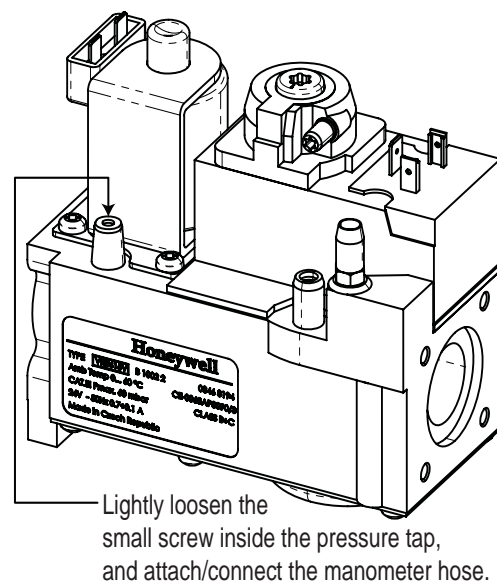

Figure 14.
Install a sediment trap/drip leg and union located outside the heater panels in accordance with *European Standard Codes of Practice* requirements. Do not use a restrictive gas cock. The sediment trap/drip leg shall be either a tee fitting with a capped nipple in the bottom outlet which can be removed for cleaning, as illustrated in Figure 14, or an other device recognized as an effective sediment trap/drip leg. All gas piping should be tested after installation in accordance with local codes.
2. Loosen the small screw inside the pressure tap as shown in Figure 14.
This appliance is equipped with an unconventional gas control valve that is factory set with a manifold pressure of 1.1 ± 0.5 mbar. Installation or service must be performed by a qualified installer, service agency, or the gas supplier. If this control valve is replaced, it must be replaced with an identical control. The combination gas valve incorporates dual shut-off valves and a negative-pressure regulator. For proper operation, the regulated pressure at the outlet manifold of the valve must be 1.1 ± 0.5 mbar below the reference pressure at the blower mixer inlet, and the gas valve 'VENT' tap must be connected to the end cap air orifice as shown in Figure 14. **DO NOT attempt to adjust the gas input by adjusting the regulator setting. The correct gas regulator setting is required to maintain proper combustion and must NOT be altered.**